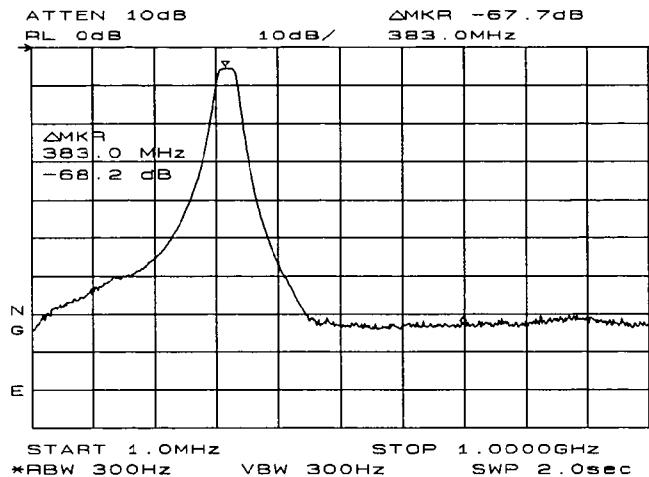

Figure 3-24. Measure the rejection range with delta markers.
7. Measure the range using the delta markers. Press [PEAK SEARCH], [MARKER DELTA], and use the knob to position the second marker in the rejection area of the bandpass filter as shown in Figure 3-24.